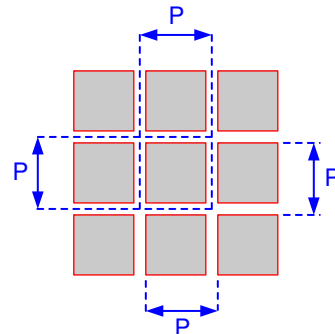

Figure 5-8. Micromirror Array Physical Characteristics
(1) See Figure 5-8.
(2) The structure and qualities of the border around the active array includes a band of partially functional micromirrors called the *Pond Of Mirrors* (POM). These micromirrors are structurally and/or electrically prevented from tilting toward the bright or “on” state but still require an electrical bias to tilt toward “off.”